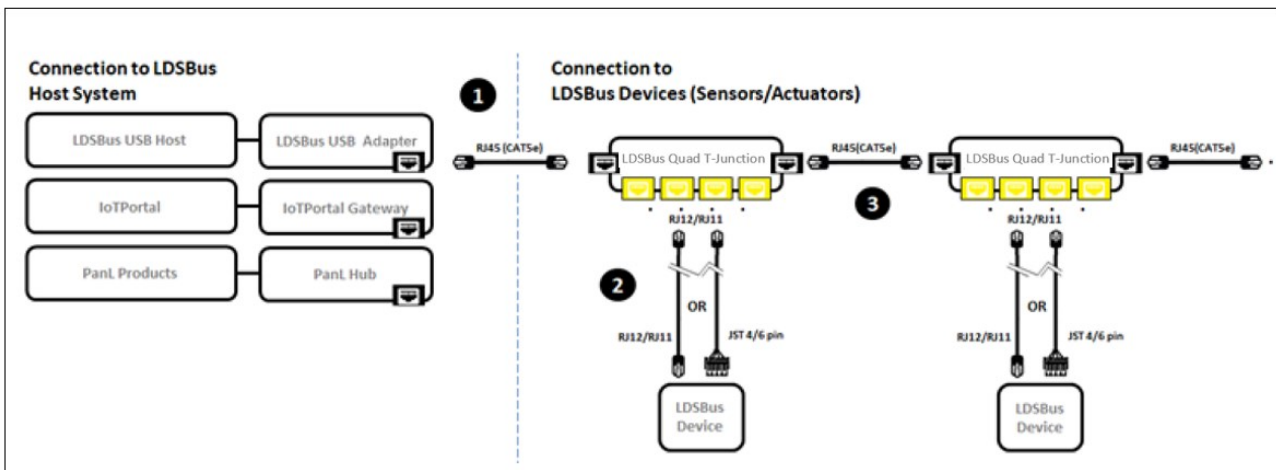

Figure 2 - LDSBus Dissolved Oxygen Sensor Adapter to LDSBus - Connection Diagram
Figure 2 illustrates the connection of the LDSBus DO Sensor Adapter (LDSBus Device) to the LDSBus. Please visit <https://brtsys.com/resources> to view the full device application, setup, and installation guides.
- 5. Figure 2.
- 19. Figure 2.